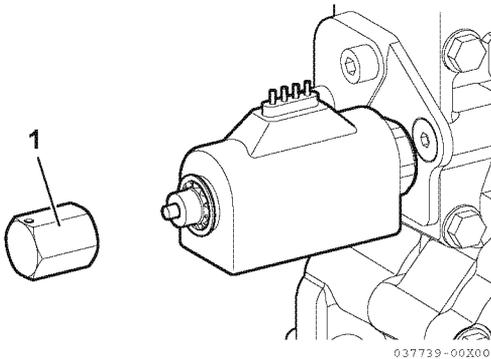

**Figure 11**
1. With the engine(s) off, remove cap (1, **Figure 11**), nut (2, **Figure 11**) and collar (3, **Figure 11**).